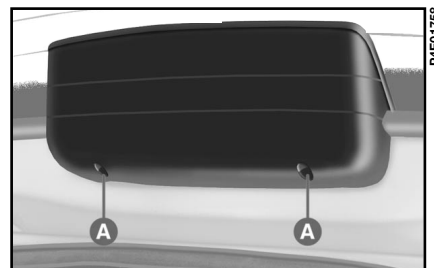

fig. 25
- 1) With the boot open, loosen the screws **A-fig. 25** and remove the unit.